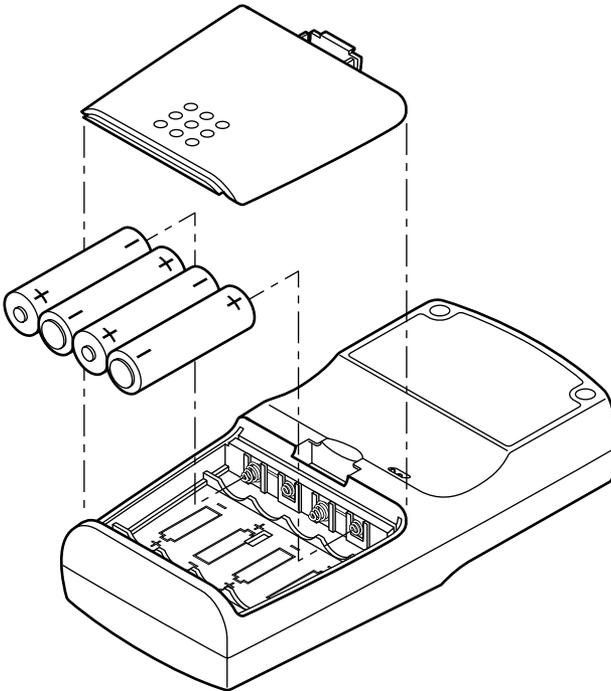

Figure 5: Installing Batteries
2. Install four “AA” size batteries, oriented as shown in Figure 5. Replace the battery access door.